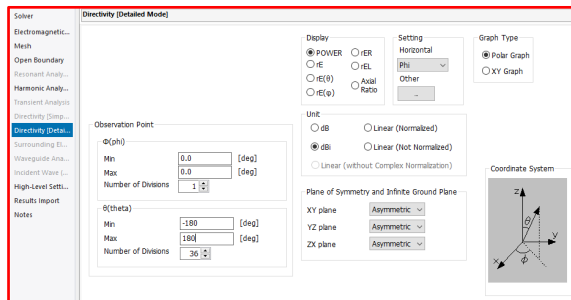

Fig.2 Setting on [Directivity [Simple Mode]] tab
2. Set the parameters for directivity according to Fig. 2 on the [Directivity [Detailed Mode]] tab.